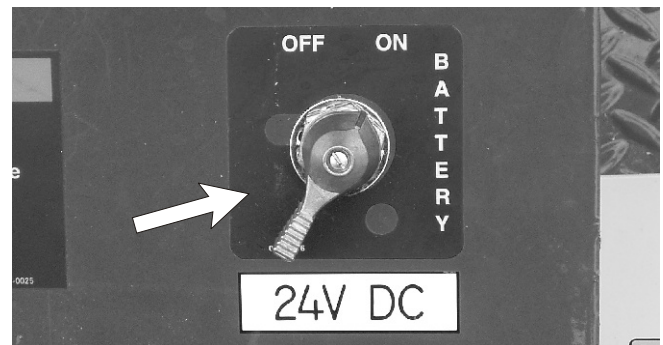

Figure 13.3 - DC Motor Battery Isolate Switch
In order to operate the DC motor the 24V DC battery isolator switch, mounted on the side of the plinth, will also need to be switched on (see Figure 13.3).
This switch allows the machine to operate to its full boom height of 12.8m when the switch is in the DISABLED position ❸ or to the restricted height of 10.9m when the switch is in the ENABLED position ❷ see Figure 13.3.